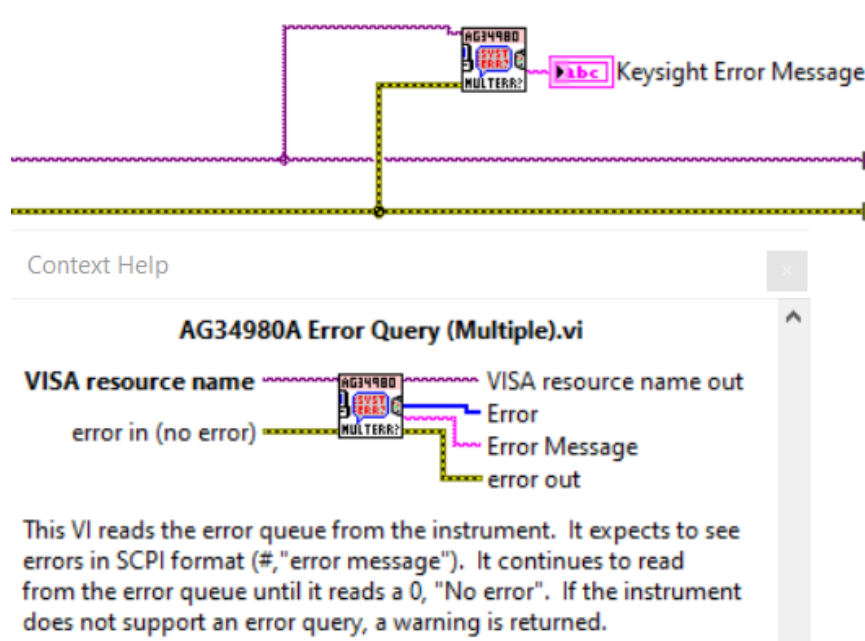

FIG. 1. Error query VI in LabVIEW block diagram
The plan is to use a third-party LabVIEW virtual instrument (VI), Fig. 1, developed specifically for the Keysight mainframe to continually monitor any and all error messages, which then can be sent to EPICS and displayed to the user via the thermal readback Phoebus screen.